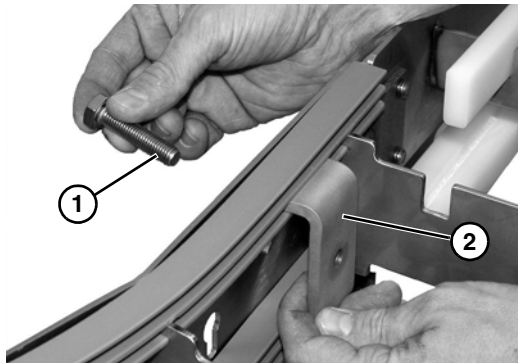

Figure 49
1. Remove the hex head bolt (**Figure 49, item 1**) retaining the wear strip support bracket (**Figure 49, item 2**) from both ends of curve conveyor (for conveyors 4" - 10" wide only).